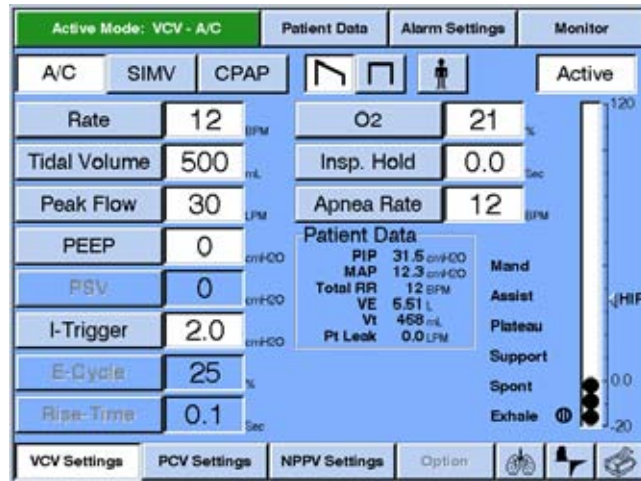

Figure 13-70: Settings Screen
1. Touch either the I-Trigger or E-Trigger button in the Settings screen (Figure 13-70).
1. Touch either the I-Trigger or E-Trigger button in the Settings screen (Figure 13-70). The I- Trigger or E-Trigger window will appear as shown in Figure 13-73 or Figure 13-74.
3. Touch the Accept button in the I-Trigger or E-Trigger window. The Settings screen will display the current I-Trigger and E-Trigger values as shown in Figure 13-70.